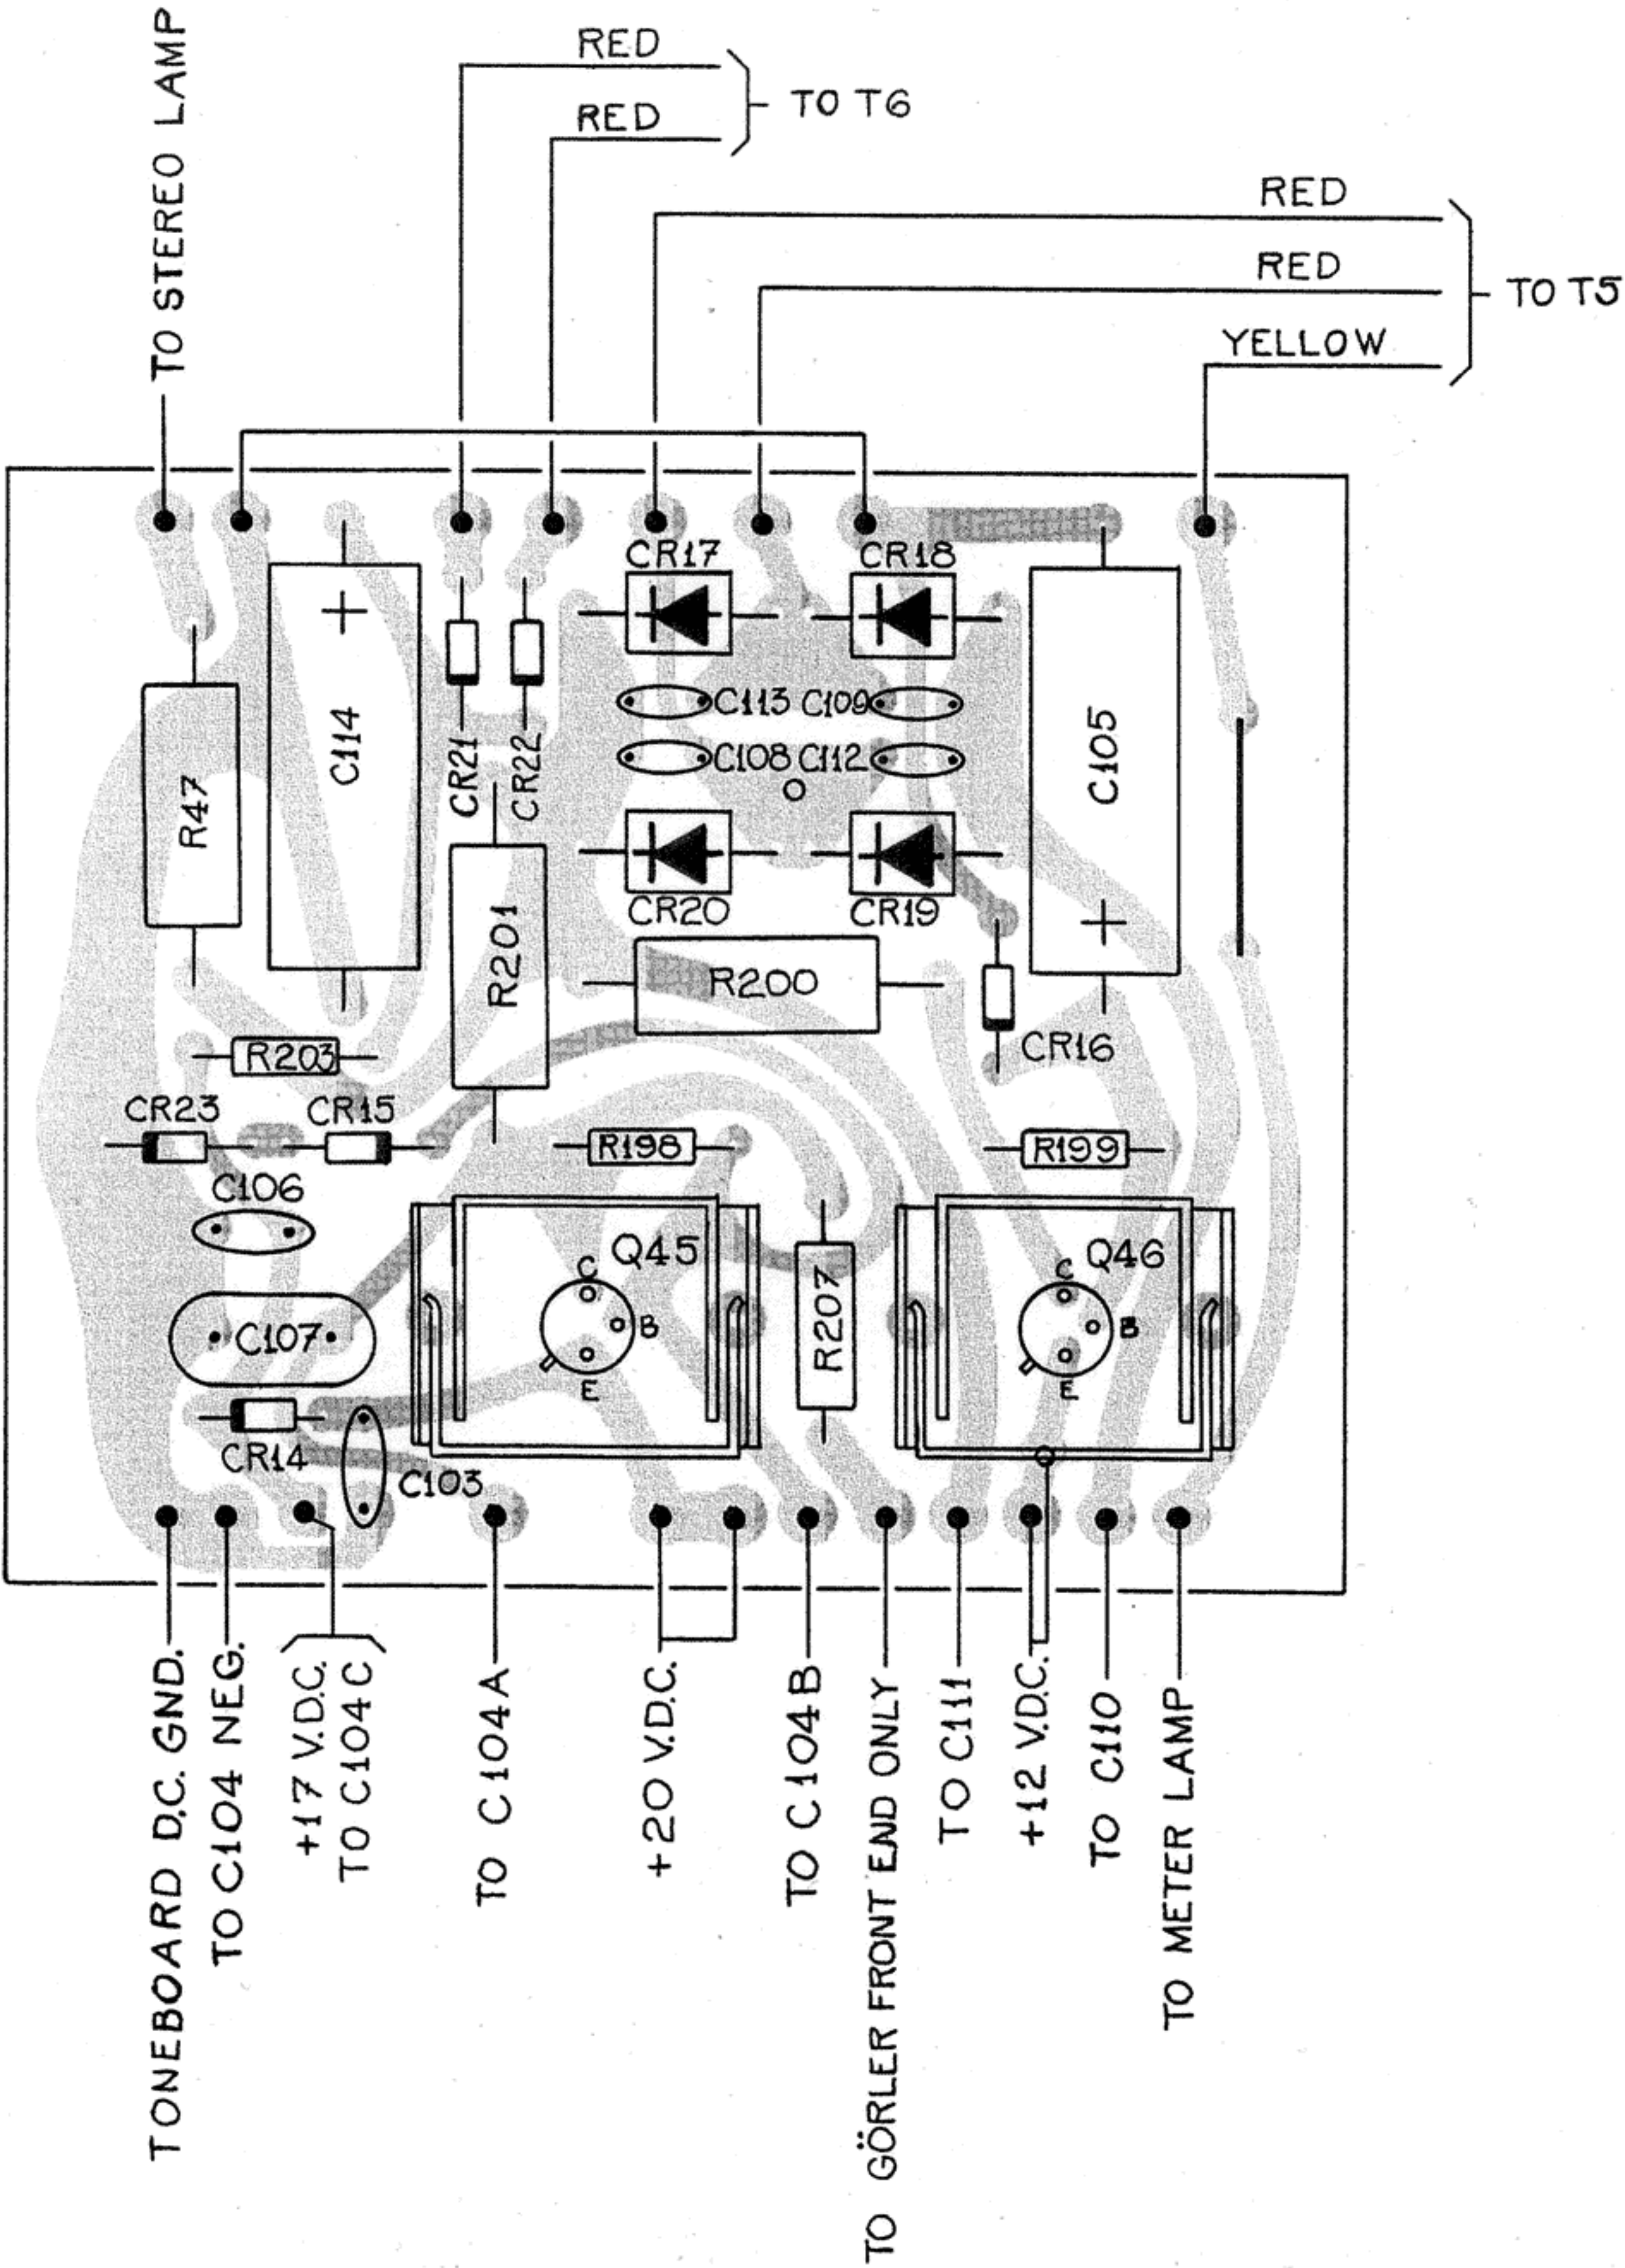

FIGURE 13
a. IF Board: There are no RC decoupling components in the +20 V DC feed to the noise amps. Receivers having the LC IF filter are provided with a bracket for mounting this to the front end. (See Figure 13.)